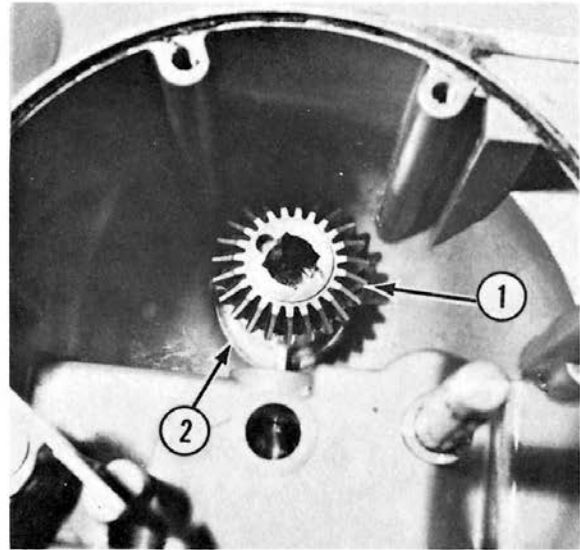

Fig. 3-27
- D. Install the attachment hub bevel gear (1, Fig. 3-27) and the fiber washer(s) (2, Fig. 3-27).